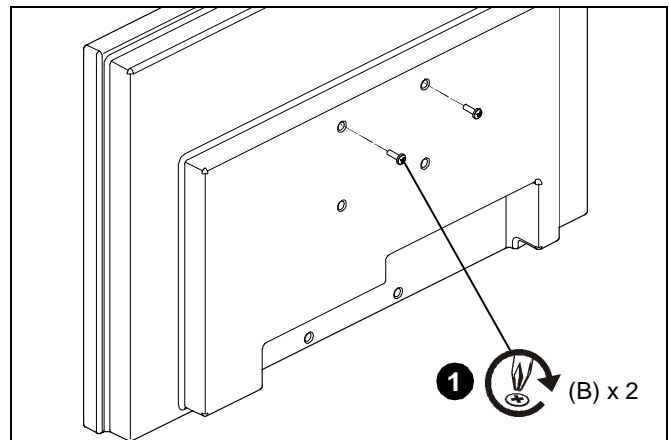

Figure 2
1. Start two M4 x 12mm Phillips pan head screws (B) into upper mounting holes in display back. (See Figure 2)